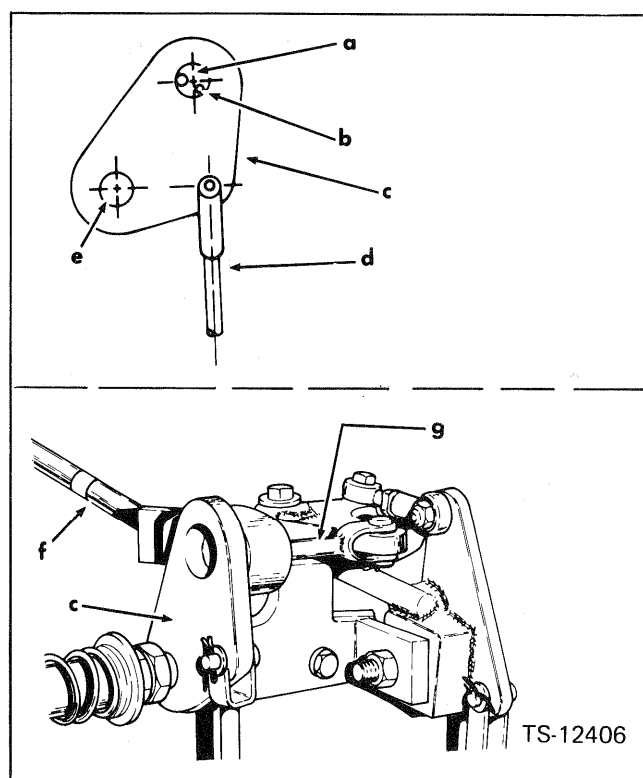

Fig. 9-4 Fourth Gear Lock-out Adjustment
4. Adjust the bell crank of the high low lever so that the clevis rod pin is at the back of the bell crank hole. (Fig. 9-4)